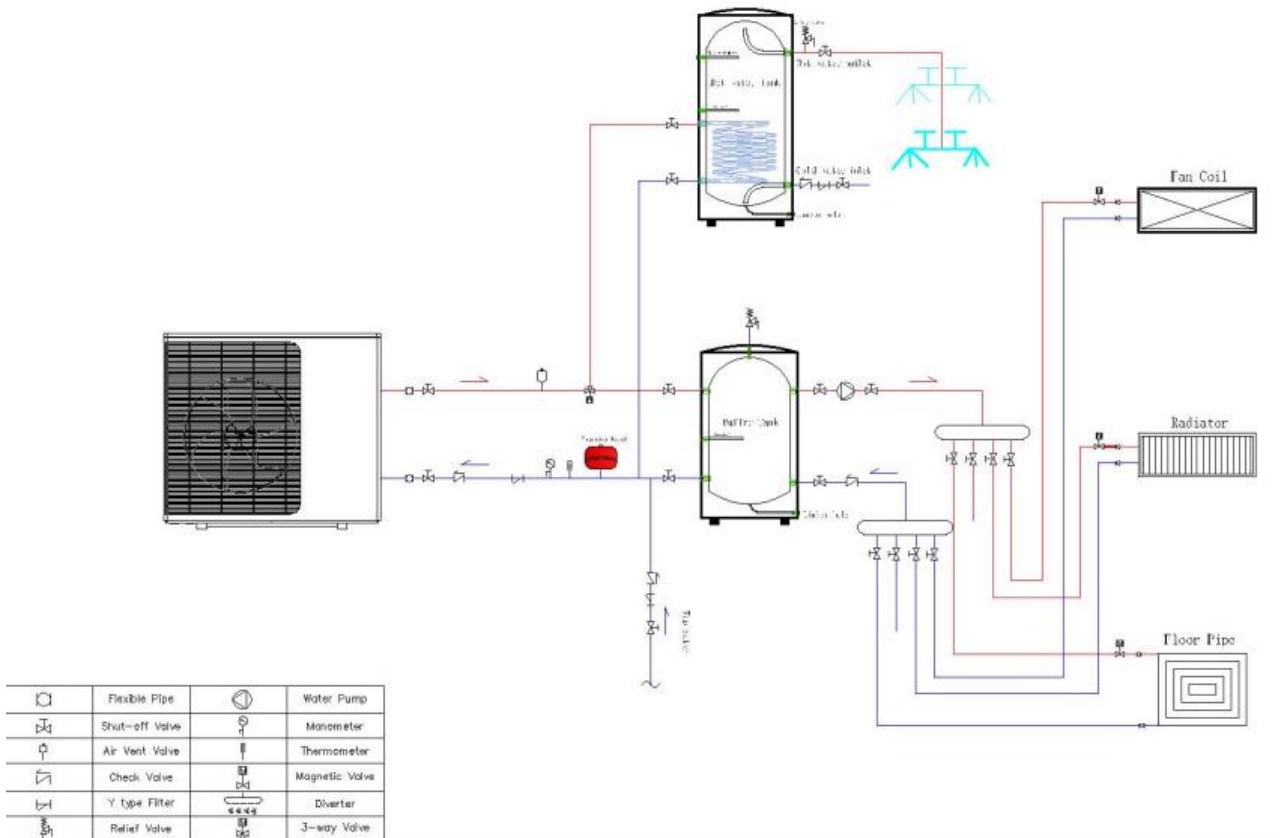

Figure 2
- 1) System installation diagram to see **Figure 2**.